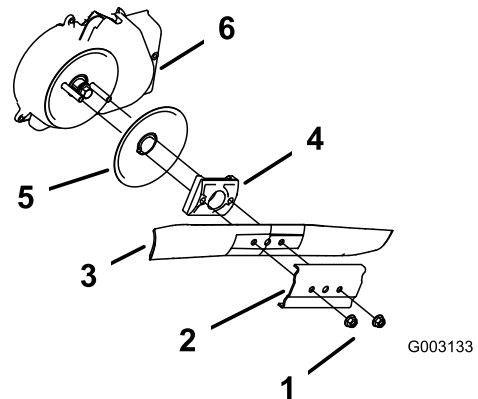

Figure 33
3. Remove the 2 blade nuts and the stiffener (Figure 33).
4. Remove the blade (Figure 33).
5. Install the new blade (Figure 33).